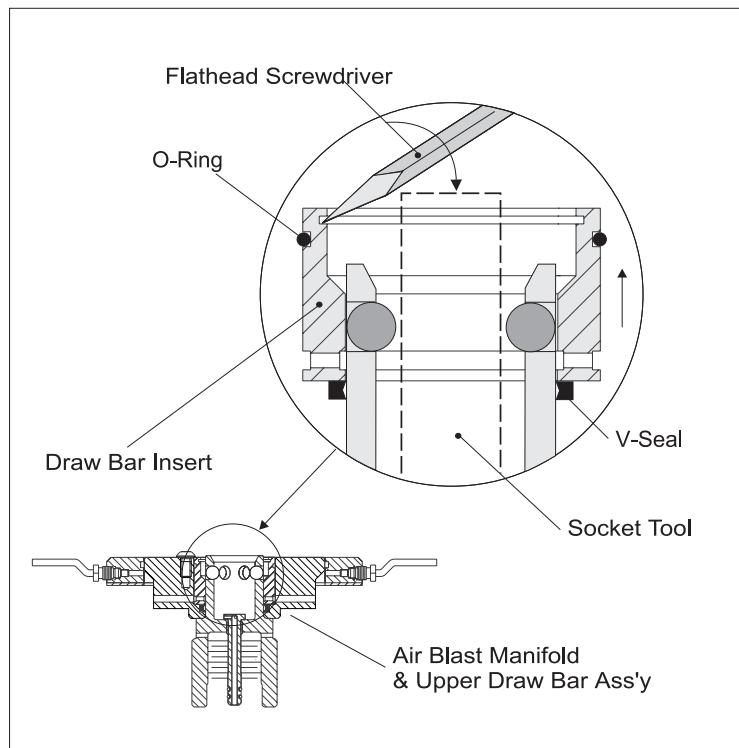

Figure 3-43
4. Insert a socket extension tool into the pull-stud area of the drawbar assembly. (For steps 4 through 9, refer to *Figure 3.43*)